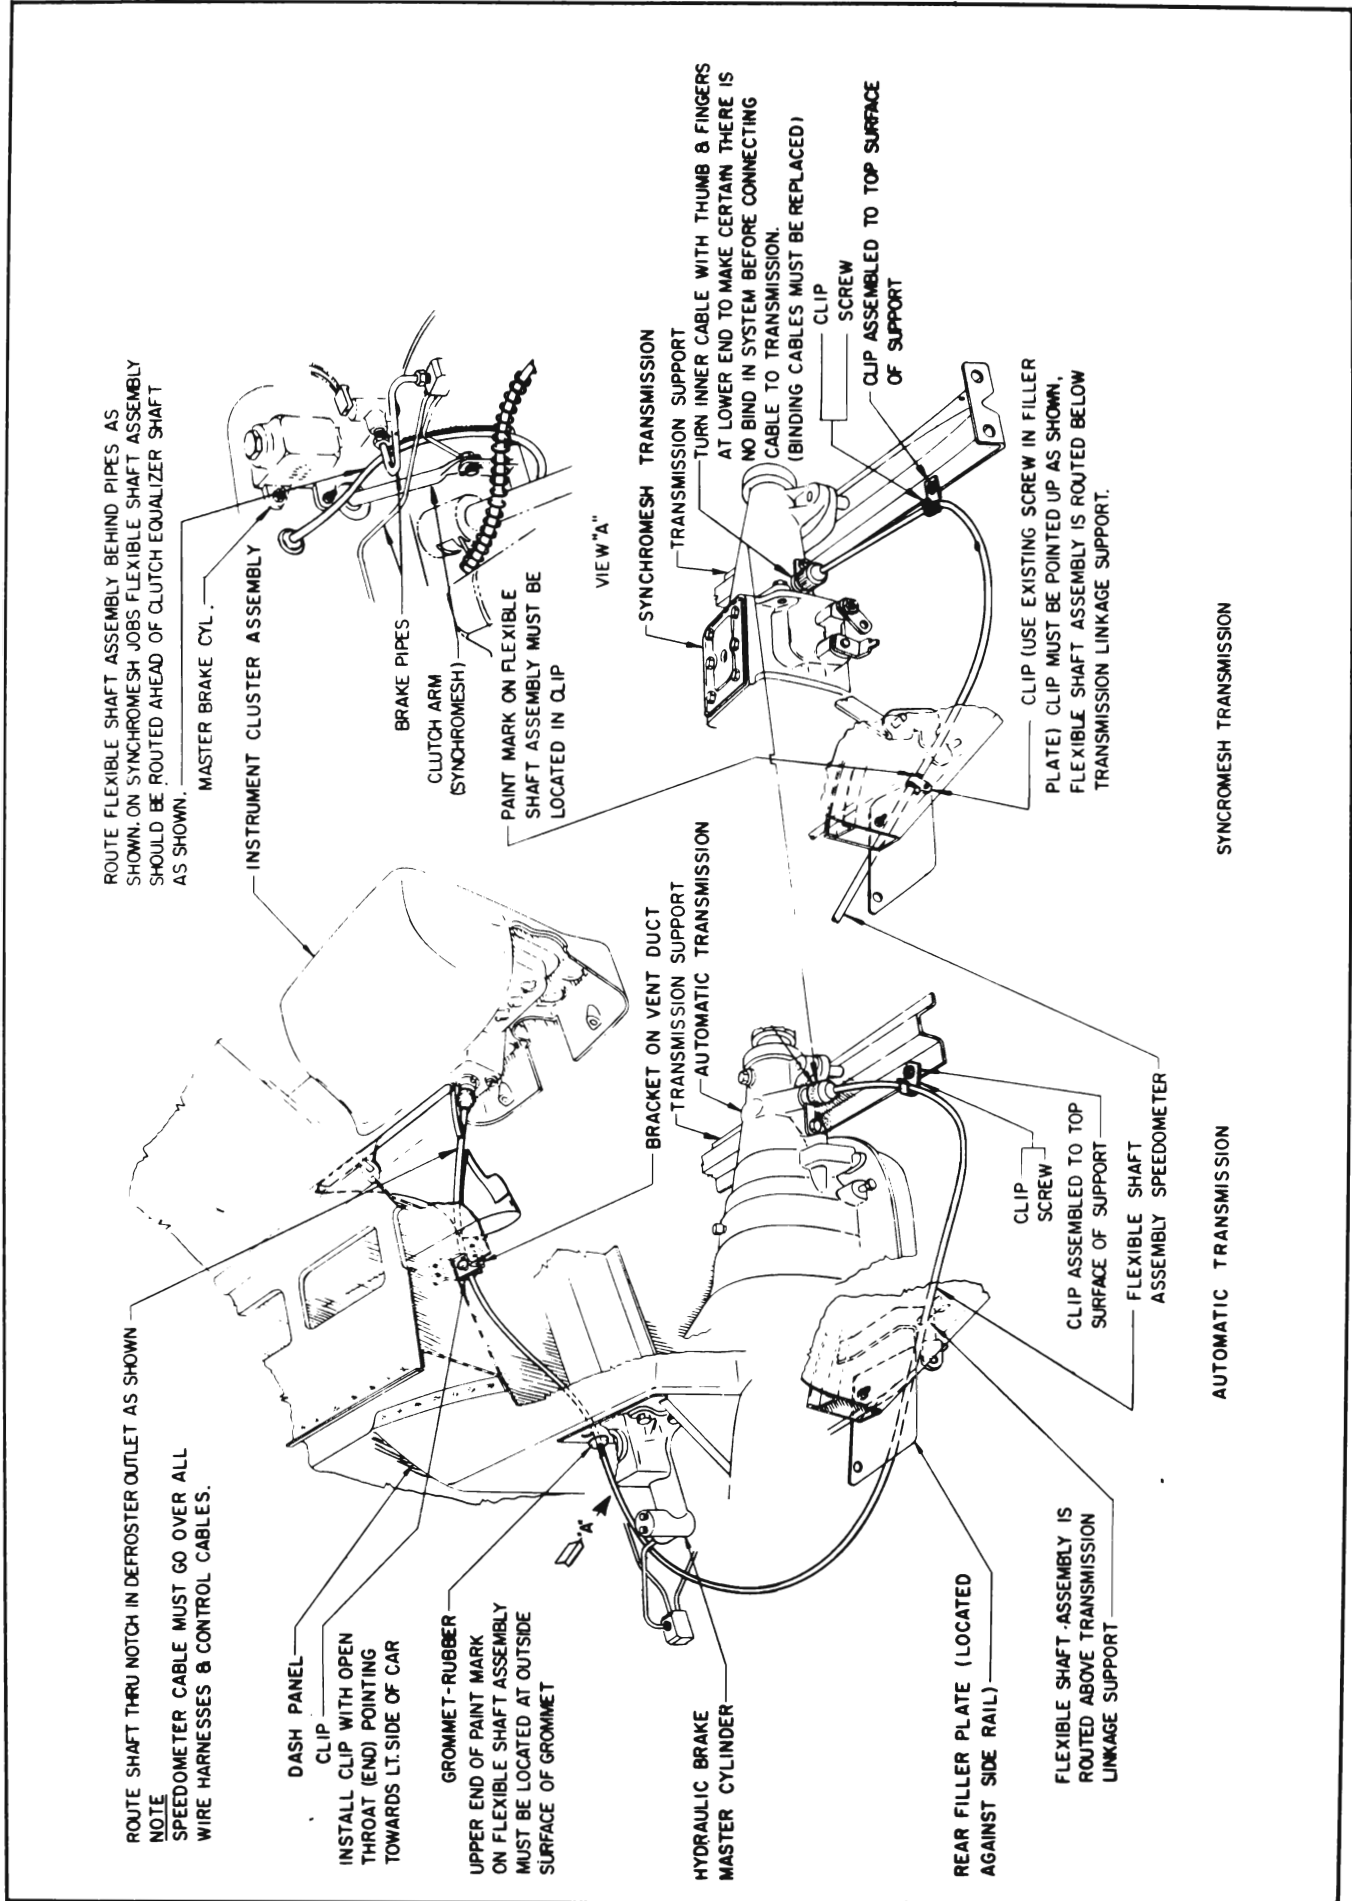

Figure 10-70—Speedometer Cable Routing
5. If noise disappeared with transmission stationary, check further for cause of noise by checking routing of speedometer cable as shown in Figure 10-70.